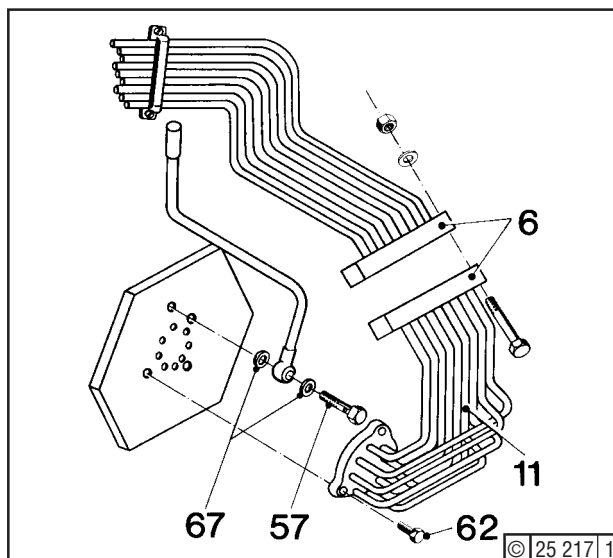
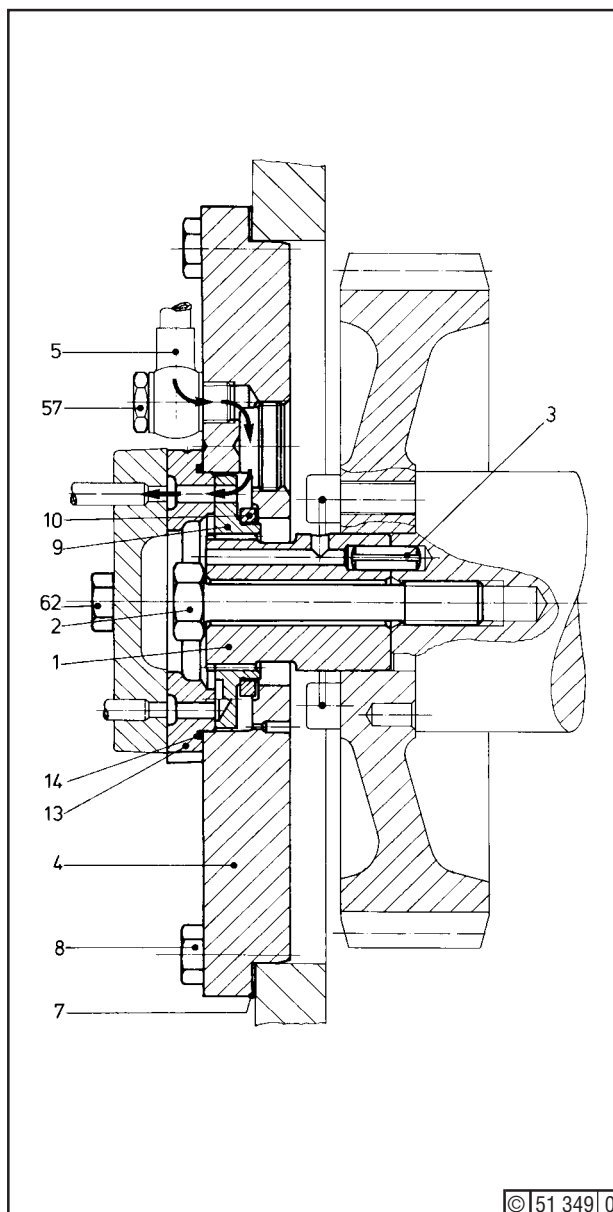
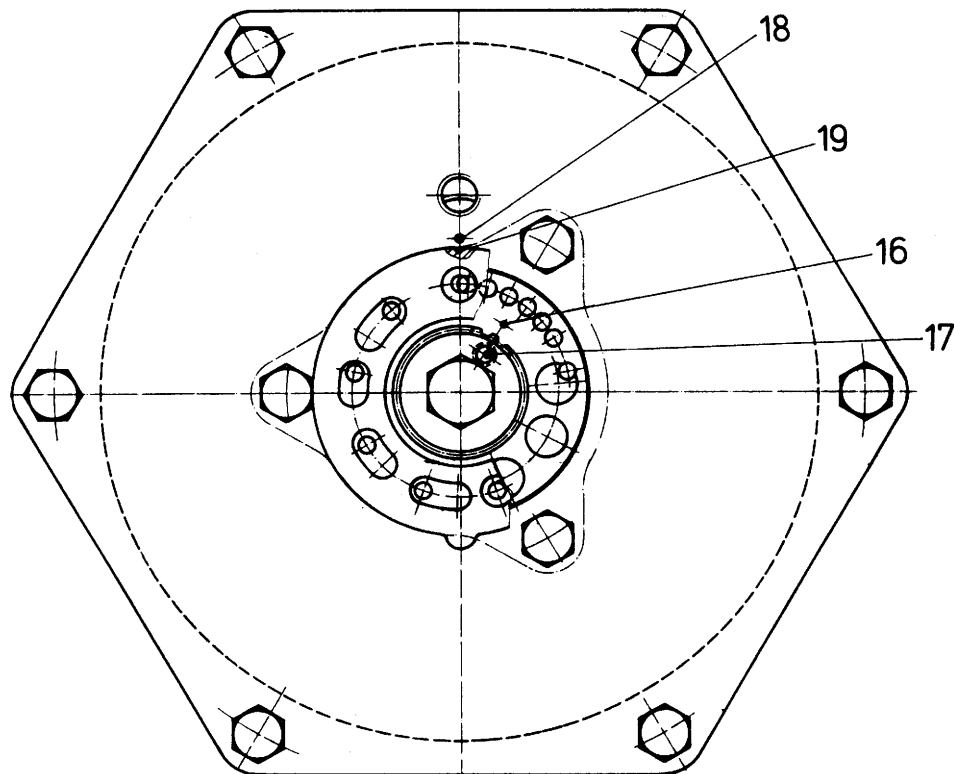

Fig. 1
Fig. 2
Fig. 3
The control disc (9) - Fig. 2 - contacts the distributor ring (13) only during the starting procedure. Ring (10) seals off the air passage to the crankcase. At the end of the starting procedure, control disc (9) runs free.
Undo coupling (6) - Fig. 1 -. Unscrew hex. bolts (62) and take off nest of tubes (11). Pull off distributor ring (13) - Fig. 2 - and withdraw control disc (9) along with ring (10).
Install control disc (9) along with ring (10) to that the punch mark (16) coincides with the hole (17) in shaft (1) - see Fig. 3 -.
Check control disc (9) and ring (10) for easy movement. Check O-seal (14) in distributor ring (13), renewing if necessary. Place distributor ring (13) in position so that punch mark (18) on cover (4) coincides with notch (19) in distributor ring (13) - see Fig. 3 -. Secure nest of tubes (11) - Fig. 1 - by means of hex. bolts (62). Connect coupling (6).
Undo coupling (6). Unscrew hex. bolts (62) and take off nest of tubes (11). Pull off distributor ring (13) - Fig. 2 - and withdraw control disc (9) along with ring (10). Screw out banjo bolt (57) and remove pipe (5). Undo hex. bolts (8). Take off cover (4) along with gasket (7).
Install control disc (9) along with ring (10) so that the punch mark (16) on the control disc (9) coincides with the hole (17) in shaft (1). Fit distributor ring (13) with O-seal (14) so that punch mark (18) on cover 4 coincides with notch (19) in distributor ring (13). Position nest of tubes (1) and secure by hex. bolts (62) - Fig. 1 -. Connect coupling (6). Upon completion of the work, start engine several times with compressed air, checking for perfect function and air-tightness of the starting pilot air distributor.